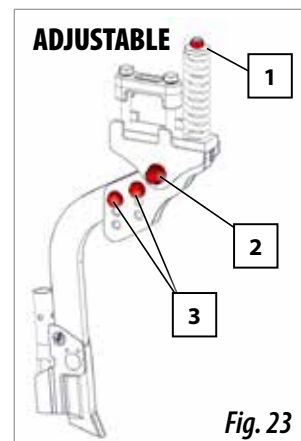

Fig. 23
To regulate the pressure transmitted by the arm to the ground, actuate on the nut of the spring (1, Fig. 23). These arms are attached to the support by a special bolt SOLÀ (2, Fig. 23) with a self-locking nut. By acting on this nut the lateral play of the arm is controlled. These arms are adjustable in depth, allowing to lower the arms to regulate their height:
- 1- Remove the bolts and nuts (3, Fig 23).
- 3- Insert the bolts and nuts into the new housing (3, Fig. 23).